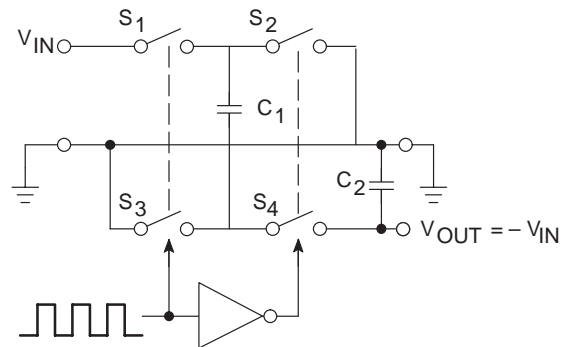
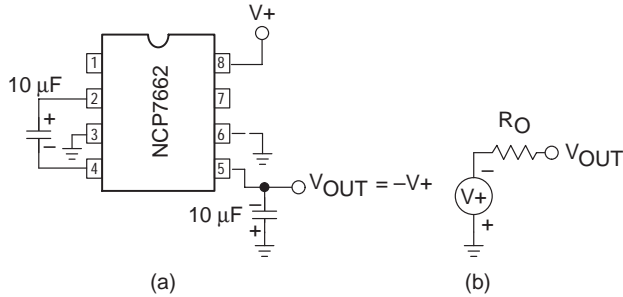
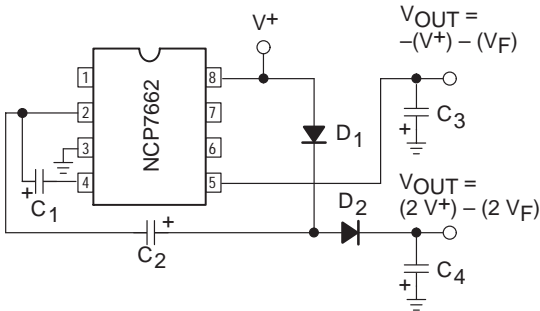

Figure 2. Idealized Negative Voltage Capacitor
Figure 3. Simple Negative Converter and its Output Equivalent
Figure 10. Combined Negative Converter and Positive Doubler
ELECTRICAL CHARACTERISTICS ($V^+ = 5\text{ V}$, $T_A = +25^\circ\text{C}$, OSC = Free running, Test Circuit Figure 2, unless otherwise specified.)
The NCP7662 contains all the necessary circuitry to complete a negative voltage converter, with the exception of two external capacitors which may be inexpensive 1 μ F polarized electrolytic types. The mode of operation of the device may be best understood by considering Figure 2, which shows an idealized negative voltage converter. Capacitor C₁ is charged to a voltage V₊ for the half cycle when switches S₁ and S₃ are closed. (Note: Switches S₂ and S₄ are open during this half cycle.) During the second half cycle of operation, switches S₂ and S₄ are closed, with S₁ and S₃ open, thereby shifting capacitor C₁ negatively by V₊ volts. Charge is then transferred from C₁ to C₂ such that the voltage on C₂ is exactly V₊, assuming ideal switches and no load on C₂. The NCP7662 approaches this ideal situation more closely than existing non-mechanical circuits.
In the NCP7662 the four switches of Figure 2 are MOS power switches; S₁ is a P-channel device and S₂, S₃ and S₄ are N-channel devices. The main difficulty with this approach is that in integrating the switches, the substrates of S₃ and S₄ must always remain reverse biased with respect to their sources, but not so much as to degrade their "ON" resistances. In addition, at circuit start up, and under output short circuit conditions (V_{OUT} = V₊), the output voltage must be sensed and the substrate bias adjusted accordingly. Failure to accomplish this would result in high power losses and probable device latchup.
where V₁ and V₂ are the voltages on C₁ during the pump and transfer cycles. If the impedances of C₁ and C₂ are relatively high at the pump frequency (refer to Figure 2) compared to the value of R_L, there will be a substantial difference in voltages V₁ and V₂. Therefore, it is desirable not only to make C₂ as large as possible to eliminate output voltage ripple, but also to employ a correspondingly large value for C₁ in order to achieve maximum efficiency of operation.
The majority of applications will undoubtedly utilize the NCP7662 for generation of negative supply voltages. Figure 3 shows typical connections to provide a negative supply where a positive supply of +1.5 V to +15 V is available. Keep in mind that pin 6 (LV) is tied to the supply negative (GND) for supply voltages below 3.5 volts.
The output characteristics of the circuit in Figure 3 can be approximated by an ideal voltage source in series with a resistance as shown in Figure 3b. The voltage source has a value of $-(V+)$. The output impedance (R_O) is a function of the ON resistance of the internal MOS switches (shown in Figure 2), the switching frequency, the value of C_1 and C_2 , and the ESR (equivalent series resistance) of C_1 and C_2 . A good first order approximation for R_O is:
Figure 10 combines the functions shown in Figures 3 and 9 to provide negative voltage conversion and positive voltage doubling simultaneously. This approach would be, for example, suitable for generating +9 V and -5 V from an existing +5 V supply. In this instance, capacitors C₁ and C₃ perform the pump and reservoir functions, respectively, for the generation of the negative voltage, while capacitors C₂ and C₄ are pump and reservoir, respectively, for the doubled positive voltage. There is a penalty in this configuration which combines both functions, however, in that the source impedances of the generated supplies will be somewhat higher due to the finite impedance of the common charge pump driver at pin 2 of the device.